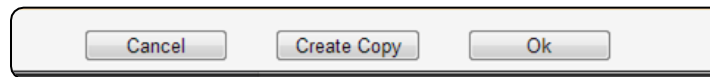

Figure 2-13. Setup Graph Report Dialog Box (Excerpt) – Buttons
5. In the Setup Graph Report dialog box, use buttons provided (Figure 2-13) to apply updates (**Ok**) or exit the screen as follows (Table 2-6).